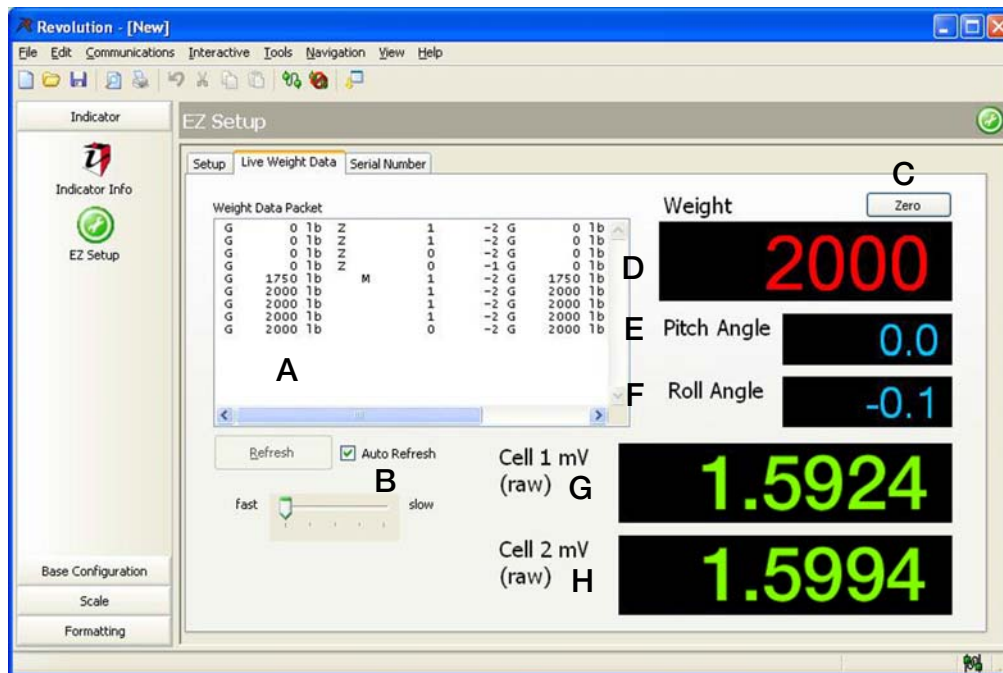

Figure 4-7. Revolution Live Weight Data screen.
1. Select the *Live Weight Data* tab (Figure 4-7).
Note *Weight data packet screen shows output format of CLS-M3. Other displays include weight, pitch angle, roll angle, cell 1 & 2mV. (Figure 4-7). This is the information that will be sent to the customer supplied hand-held device when attached through Bluetooth.*